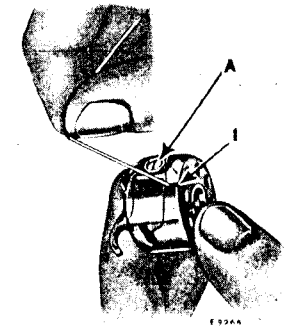
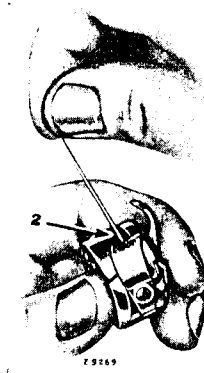

Fig. 13
Fig. 14
Then pull the thread into the slot (1, Fig. 13) in the edge of the bobbin case, draw the thread under the tension spring and into the delivery eye (2) at the end of the tension spring, as shown in Fig. 14.
The tension on the bobbin thread is regulated by the screw (A, Fig. 13) in the bobbin case tension spring. To increase the tension, turn this screw over to the right. To decrease the tension, turn the screw over to the left. The tension on the bobbin thread should be light.